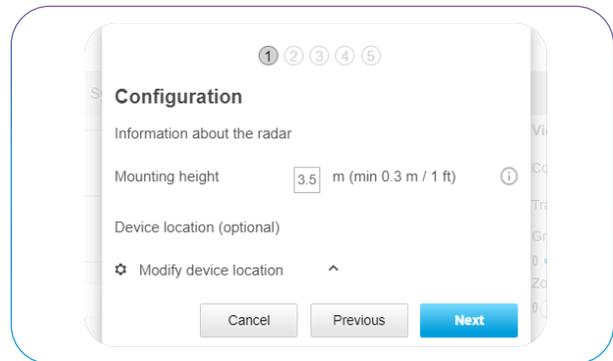

Figure 13. Calibration Step 1 of 5
D. Enter the actual mounting height of the Radar (Figure 13) in meters and click on **Next** to proceed.